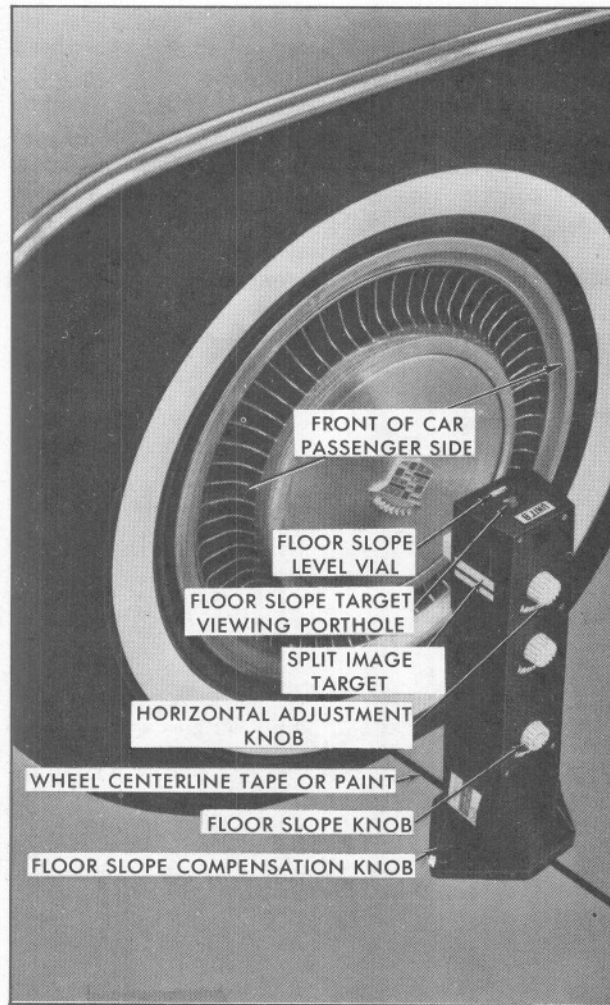

Fig. 12-3 Correcting for Floor Slope
4. Adjust floor slope compensation knob on each adapter until the level bubble on each aimer is in the centered or level position, Fig. 12-3.
6. Read horizontal dial, set floor slope knob (Fig. 12-3) to this reading, and reset horizontal knob to zero.
5. Adjust the compensating knob on each adapter until the level vials are centered, Fig. 12-3.